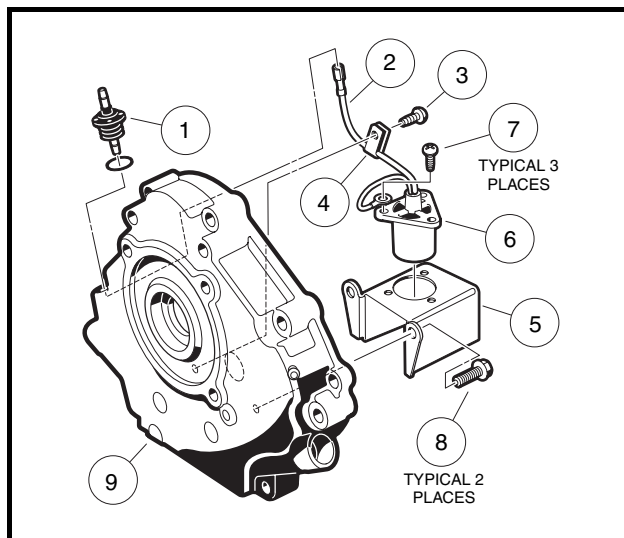

Figure 13-5 Oil Level Sensor
1. If the oil level sensor was removed from the bracket, install sensor (6) into bracket (5) and secure with three screws (7) (**Figure 13-5, Page 13-5**). Tighten to 17 in-lb (1.9 N·m).
3. Connect sensor wire (2) to cord connector (1) (**Figure 13-5, Page 13-5**).
4. Install screw (3) through wire clamp and into crankcase cover. Tighten to 30 in-lb (3.4 N·m).